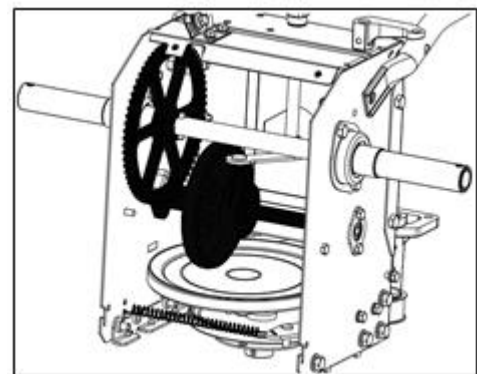

Fig. 22
- 2) Apply a thin layer of universal grease to the shaft. See Figure 22.